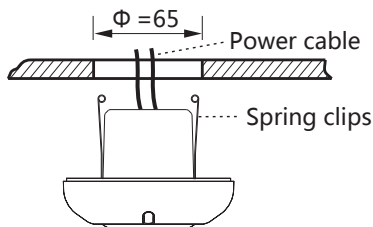

FIG.14
- Close up detector' s two spring clips and insert detector into the drilled hole on ceiling (See FIG.14).